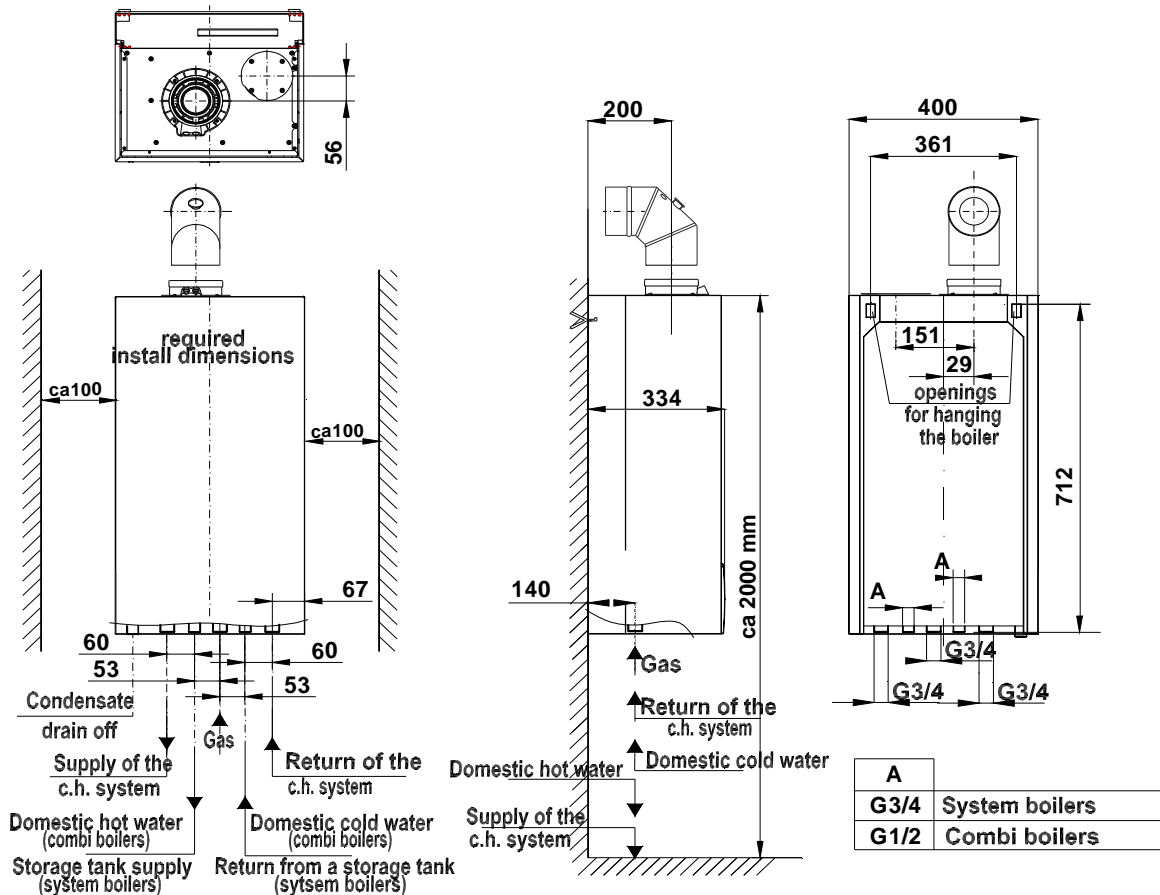

Fig. 3.3.1 Installation dimensions of boiler ECOCONDENS SILVER PLUS
- Power supply and return connectors of the central heating boiler should be screwed to the installation. Location of the connectors → Figure 3.3.1.
- It is recommended to lead out a water from a safety valve 0,3 MPa (3 bar) (item 25) to a floor drain by a tube or hose otherwise during the safety valve activation there is a risk of flooding a room what is excluded of producer's liability.